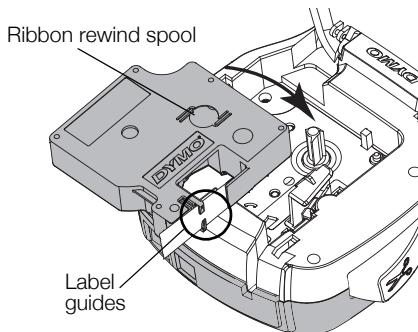

Figure 2
- 1 Plug the charging adapter into the power connector on the top of the label maker. See Figure 2.
- 2 Make sure the tape and ribbon are taut across the mouth of the cassette and that the tape passes between the label guides. See Figure 2.
- 3 Insert the cassette with the label facing out and positioned between the label guides. See Figure 2.